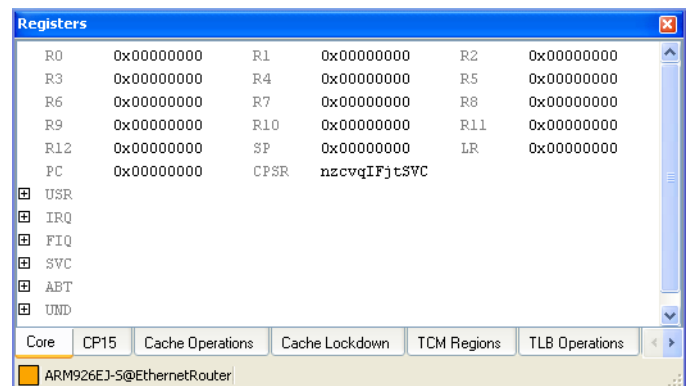

Figure 5-24 Core tab shown in the Registers view
2. Select **View** → **Registers** from the Code window main menu to open the Registers view. Figure 5-24 shows an example: